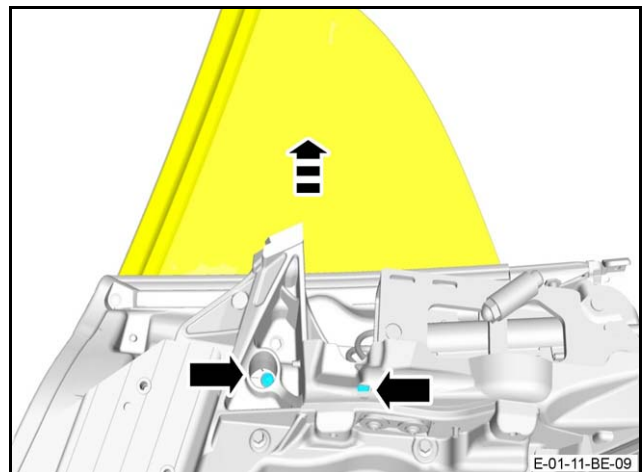

Figure 8
24. Use the power supply to operate the glass regulator until you can get access to the two glass attachment screws through the two holes in the top of the reinforced upper pillar bracket (Refer to Figure 8).